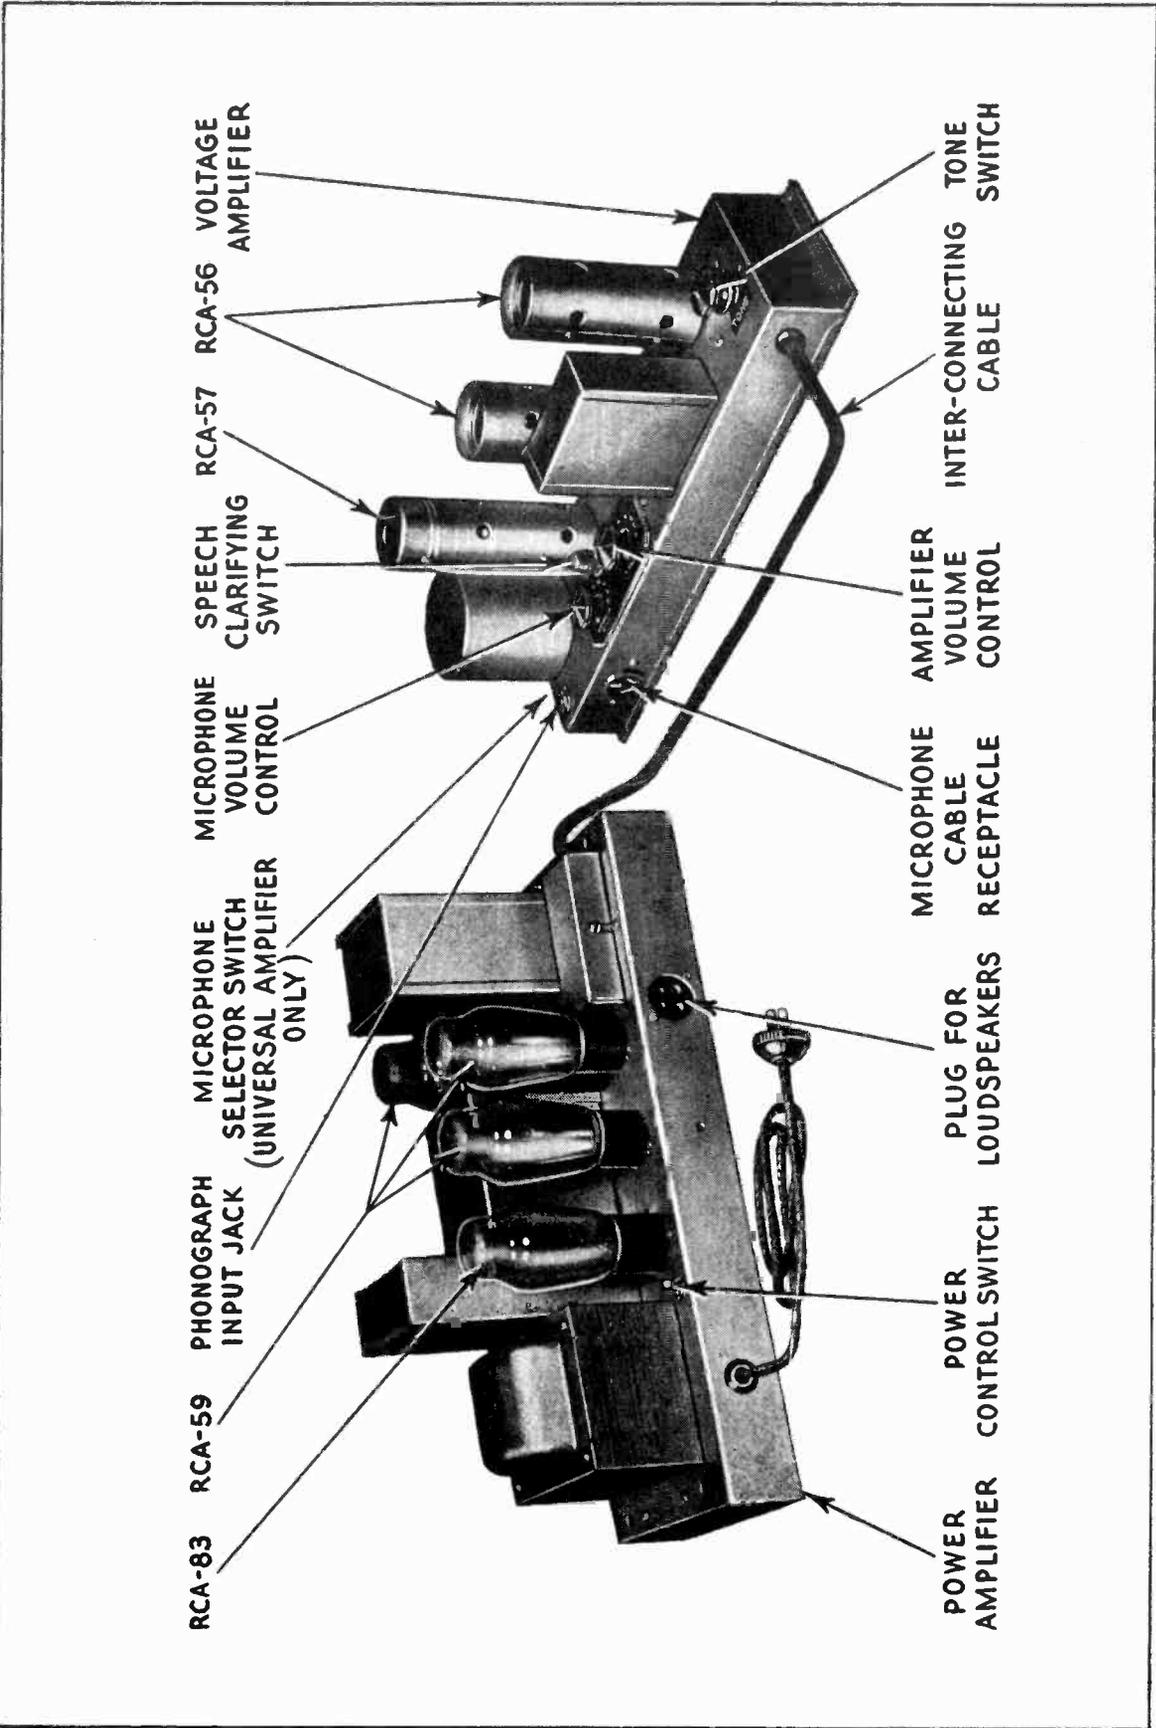

Figure 2—View of Voltage and Power Amplifiers Showing Parts
All the controls except the power control switch are mounted on the voltage amplifier base and are easily accessible to the operator. The controls consist of the power control switch mounted on the power amplifier base, the microphone volume control, amplifier volume control, the speech clarifying switch and the tone switch. Figure 2 shows the location of the various controls.
- (a) That all Radiotrons are in their proper sockets and pressed down firmly. Never apply power to the instrument unless all Radiotrons are in place. See Figure 2.
1. Insert the Radiotrons in the sockets as shown in Figure 2.
- (a) That all Radiotrons are in their proper sockets and pressed down firmly. Never apply power to the instruments unless all Radiotrons are in place. Figure 2 shows the proper Radiotron locations.